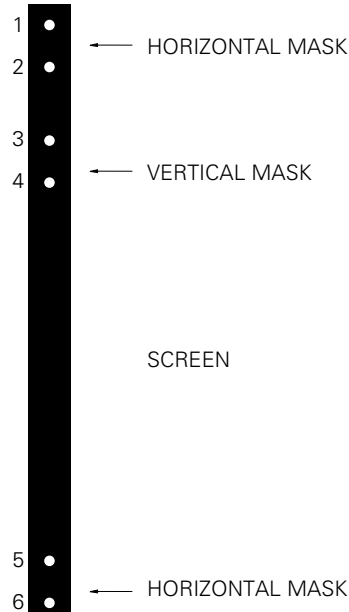

FIGURE 8
The limit switches are accessed through openings located on the left side of the frame as shown in Figure 8.
WARNING! The up limit switch(es) retract the batten further into the unit. Adjusting it is not advised. Refer to 1, 3 or 5 as appropriated in Figure 8.
2. Locate the down limit switch(es) located on the left side of the frame. Refer to 2, 4 or 6 as appropriate in Figure 8. Use an Allen wrench to turn the switch in a counterclockwise direction. If the power is on, the mask will drop incrementally as the switch is turned. **NOTE: One complete turn of the switch will make approximately a 1/2" change in the mask's stop position.**
2. Locate the down limit switch(es) located on the left side of the frame. Refer to 2, 4 or 6 as appropriate in Figure 8. Use an Allen wrench to turn the switch in a clockwise direction. **NOTE: One complete turn of the switch will make approximately a 1/2" change in the mask's stop position.**